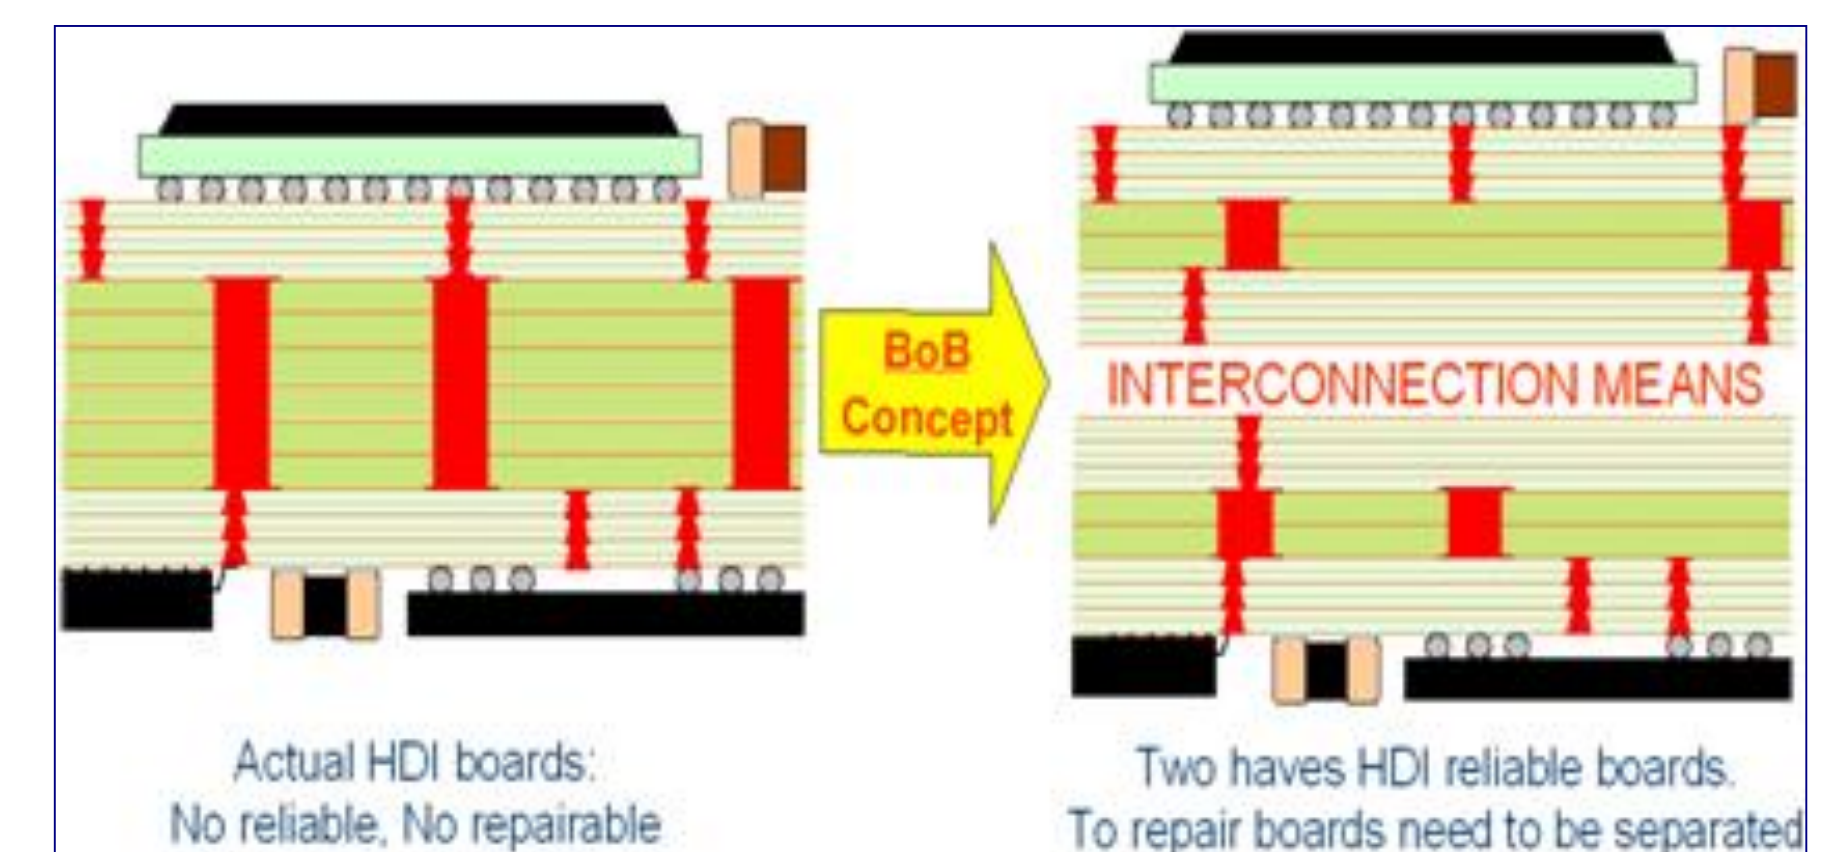

Fig. 1: Basic principle of BoB concept
- the interconnection means have to be very discreet in order not to penalize the place allocated for components as well as boards thickness, as is demonstrated in Fig. 1.